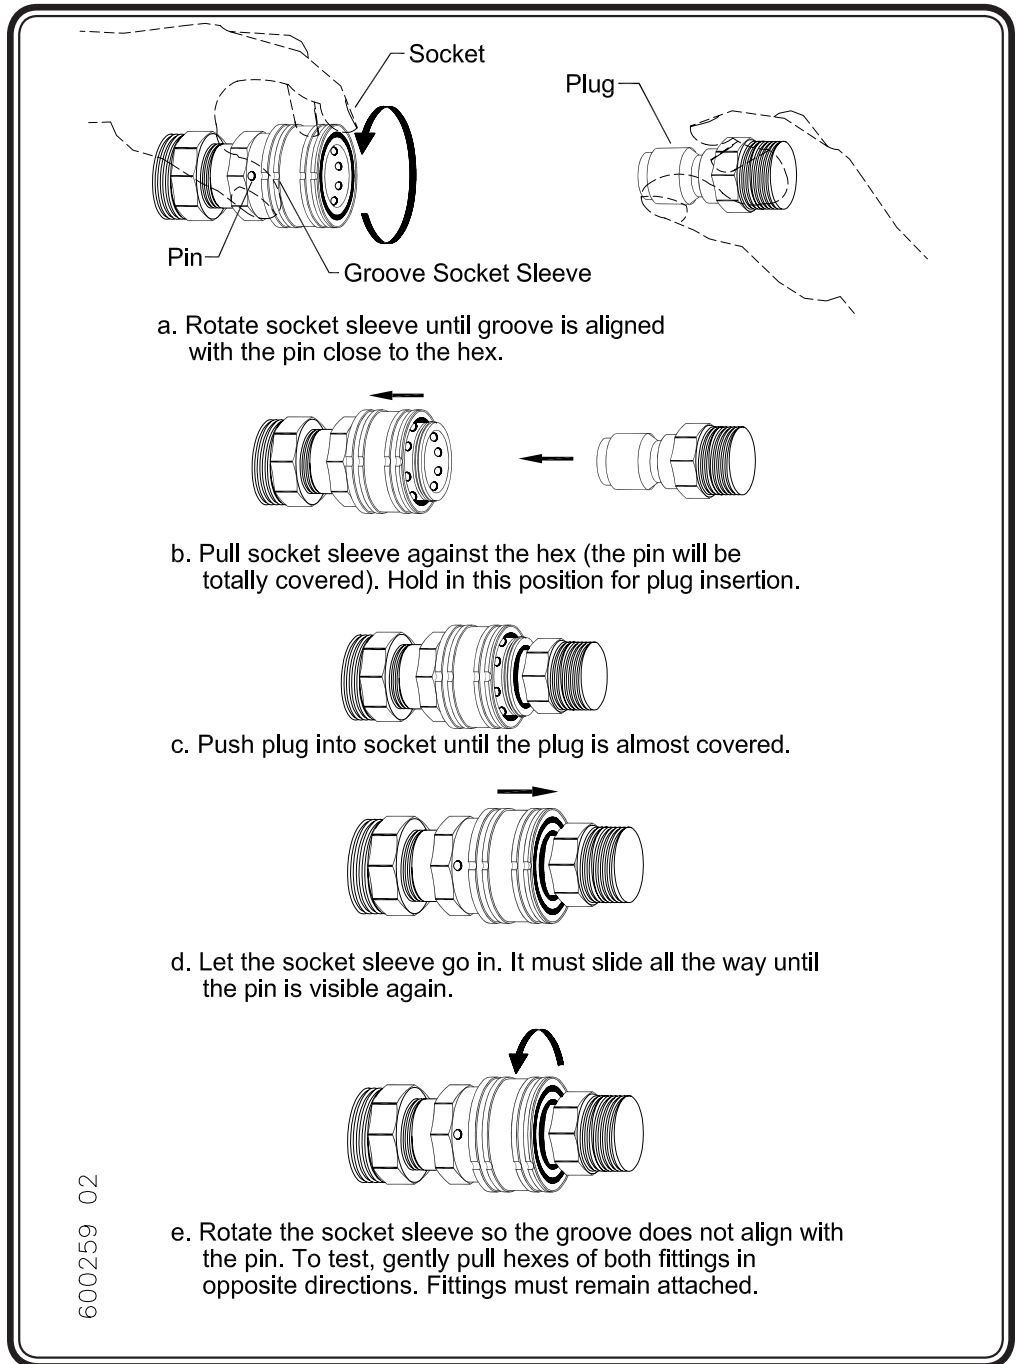

Figure 4 - Locking Quick-Connect Instructions
- Follow the instructions on **Figure 4** for properly securing the locking quick connects.